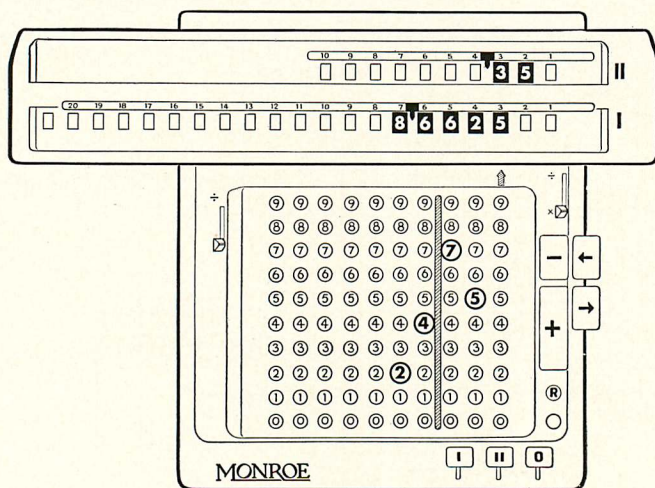

Figure 10
*Step 3*—After multiplying by .35 the result appears in the lower dials, 8.662500, correctly pointed off (Figure 10).